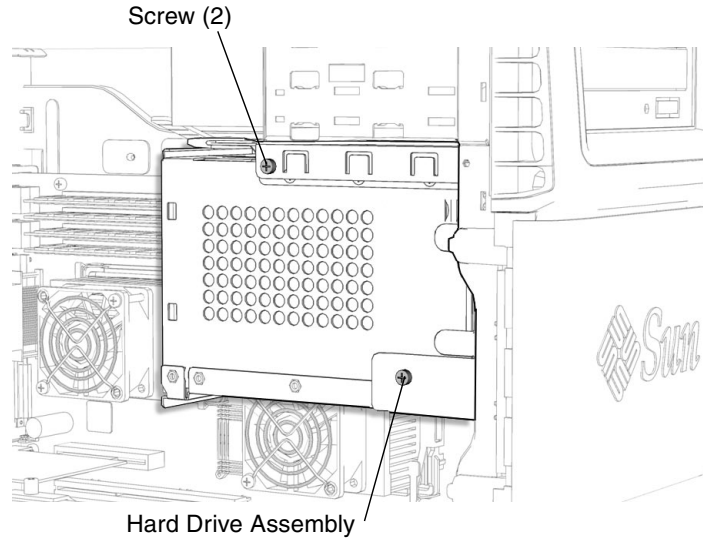

FIGURE 13-32 Installing the Two Screws for the Hard Drive Assembly
11. Install the two screws for the hard drive assembly (FIGURE 13-32).